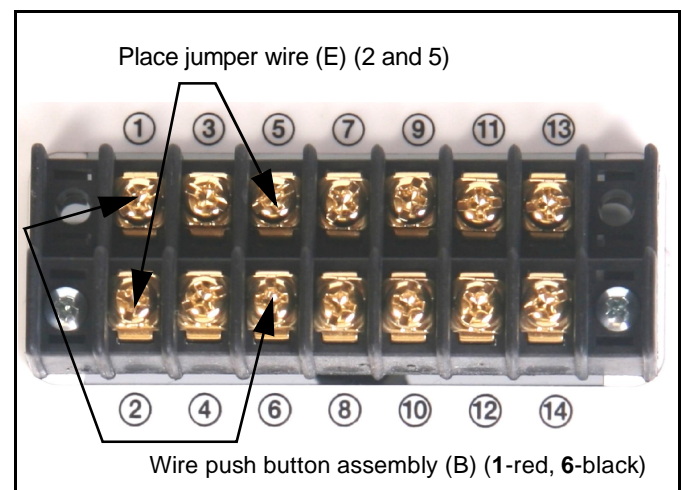

Figure 3
6. Place the jumper wire (E) on the external wiring terminal contacts labeled **2** and **5**, and wire the push button assembly (B) to contacts **1 (red)** and **6 (black)**. (See Figure 3).